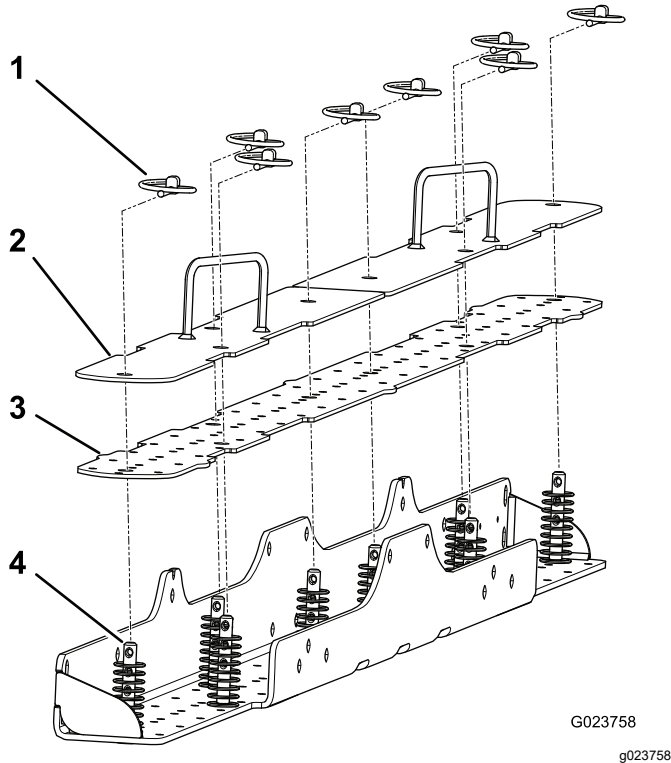

Figure 3
1. Remove the lynch pins from the 8 clevis pins securing the nail plate and the top plates to the bottom plate (Figure 3).